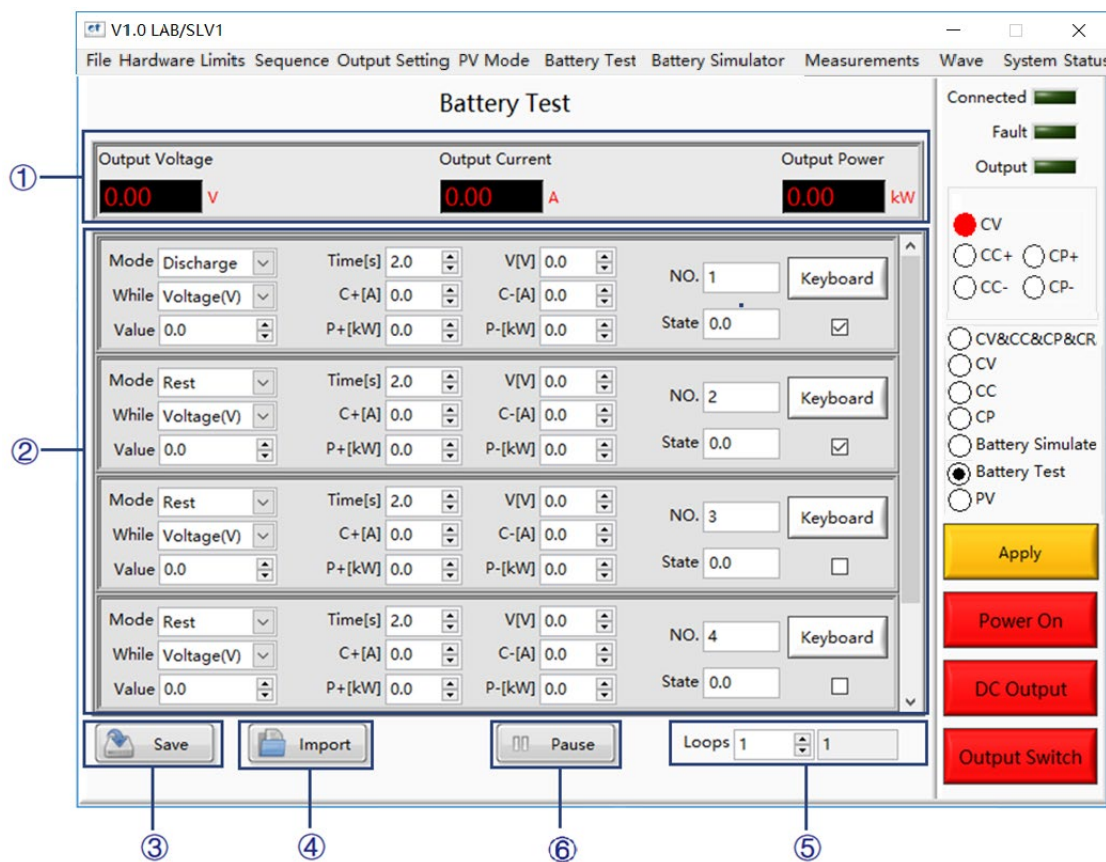
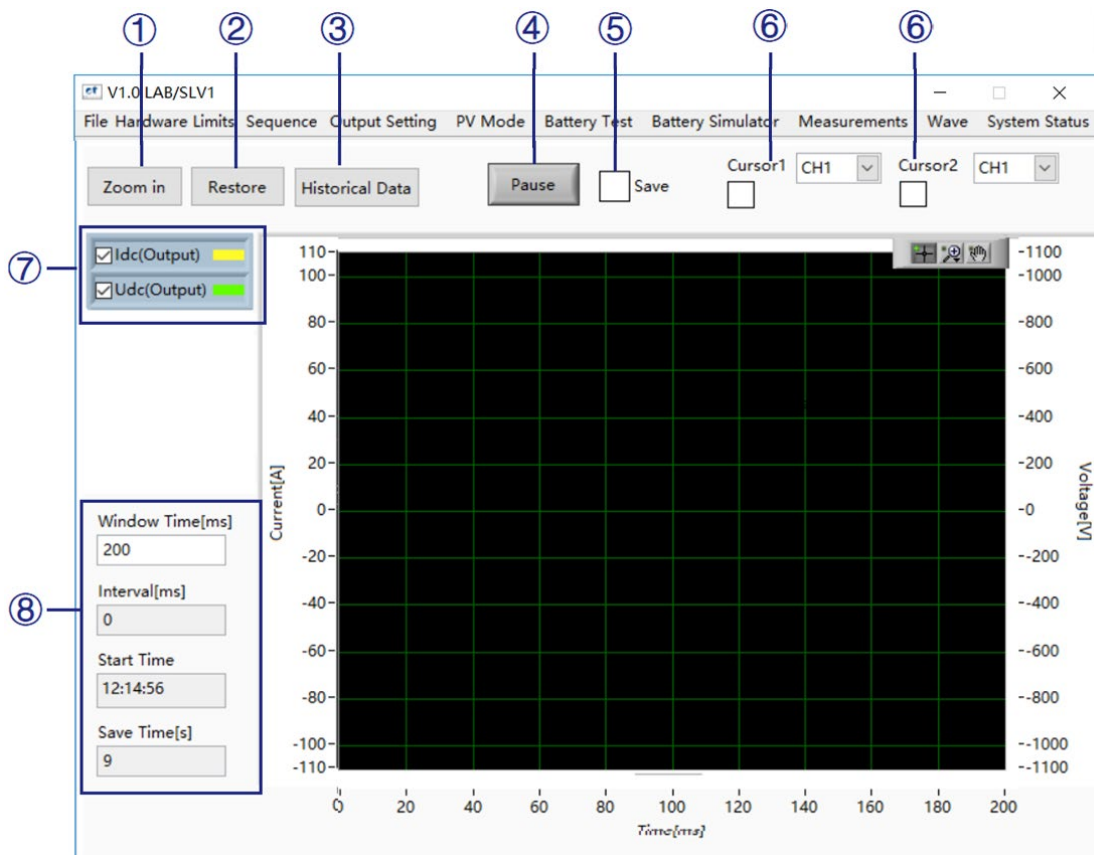

Figure 5-13 Battery Test
Figure 5-18 Wave Panel
Click "Battery Test" to enter the battery simulation panel (Figure 5-13). After setting the parameters, click "Selected" → "Apply" → "Power On" → "DC Output" → "Output Switch" to start the battery test.
Click "Wave" to enter the interface (figure 5-13). In the waveform browsing window, the user can individually or simultaneously select the data of Idc or Udc (figure 5-18⑦) to browse its waveform. In addition, the user can also set the waveform data point window display time, sampling time interval and other parameters (figure 5-18⑧).